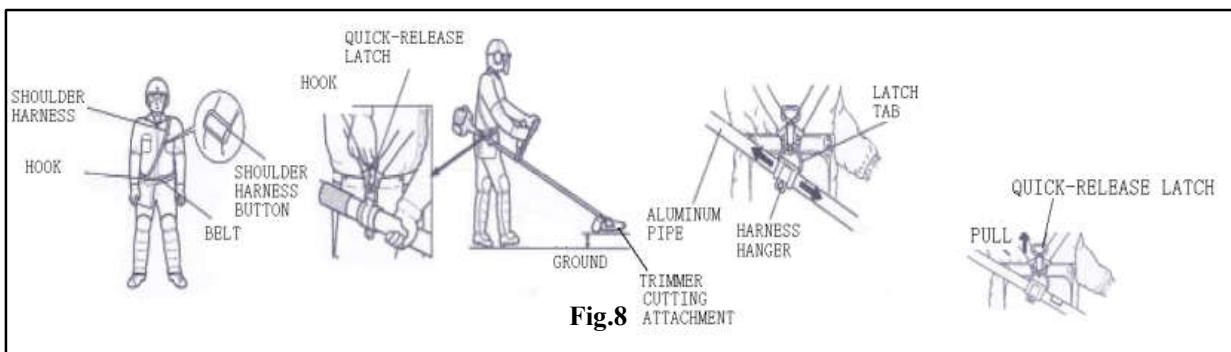

Fig.8
1. Assemble and adjust the shoulder harness and belt (See fig.8).